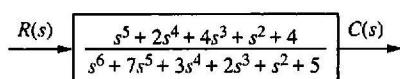

FIGURE P2.1
9. Write the differential equation for the system shown in Figure P2.1. [Section: 2.3]